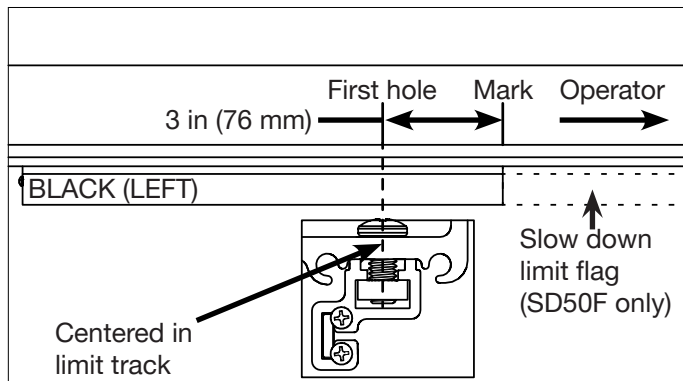
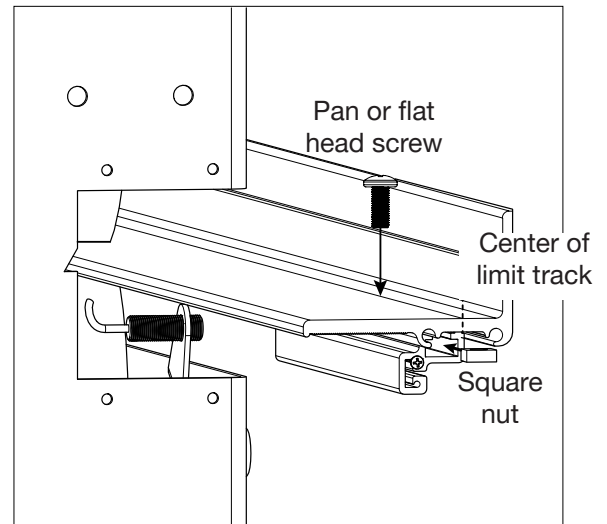
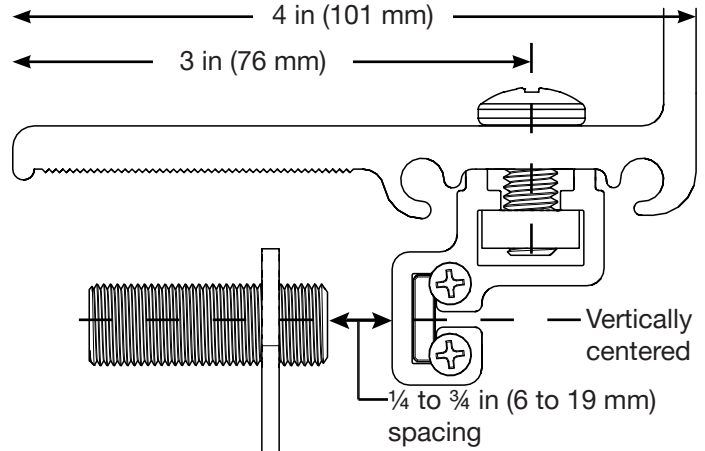

Figure 12. Drill First Limit Flag Hole (Left Limit)
Figure 13. Install Limit Flag
Figure 14. Set Dual Limit Sensor Spacing
5. Drill one hole 3 in (76 mm) from mark away from the operator and approximately 3 in (76 mm) from the edge of the drive rail (Figure 12 and Figure 14).
7. Install a screw into each hole, thread a square nut onto each screw, and slide the limit flag onto the square nut (Figure 13).
9. Set dual limit sensor spacing: loosen the two nuts (¹/₁₆ in) on the dual limit sensor, adjust the spacing between the dual limit sensor and stop limit flag face to ¼ to ¾ in (6 to 19 mm), and tighten the nuts to hold this spacing (Figure 14).
Make sure the limit flag screws are centered in the limit track (Figure 12 and Figure 13).
Make sure the dual limit sensor is centered on the limit flag (Figure 14).